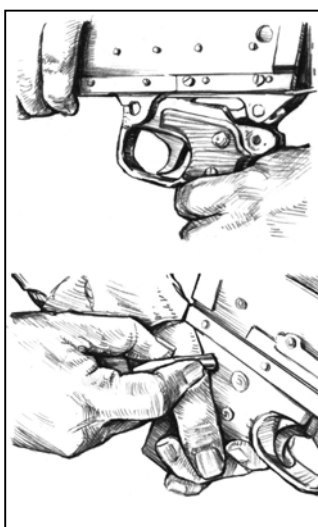

Figure 3-25. Replacement of the trigger housing assembly.
c. **Replacing the Trigger Housing Assembly.** Insert the holding notch on the front of the trigger housing into the forward recess on the bottom of the receiver. Rotate the rear of the trigger housing upwards and align the holes of the trigger housing with the mounting bracket on the receiver. Hold the trigger housing assembly and insert the spring pin into the hole, securing the assembly to the receiver. (insert the spring of the spring pin into the hole then push in from right to left) (Figure 3-25).